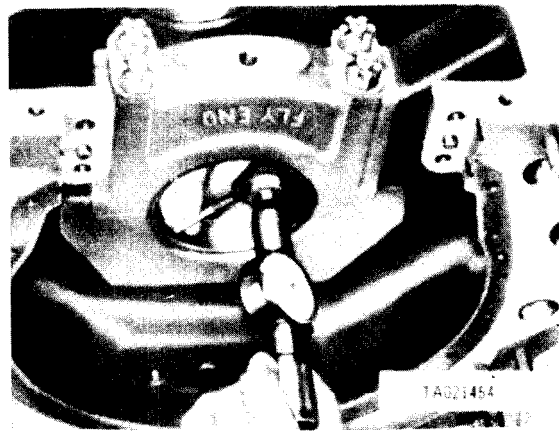

Figure 3-154. Checking inside diameter of main bearings.
(10) Starting at the main thrust bearing cap, with aid of an assistant to hold the nuts on the opposite side of crankcase, alternately tighten all main bearing cap engine crankcase rod nuts to 640 pound-inches torque.
(11) Check the inside diameter of the main bearings with a dial bore indicator as shown in figure 3-154 against the limits specified in repair standards (table 3-1). Replace bearings which do not meet these requirements. New bearings must also be dial bore checked. Remove the main bearing caps and bearing halves from the crankcase and check contact surfaces as indicated by Prussian transfer. Replace bearings that do not make 75 percent contact with crankcase bearing bores. Repeat dial bore check of new bearinga installed.